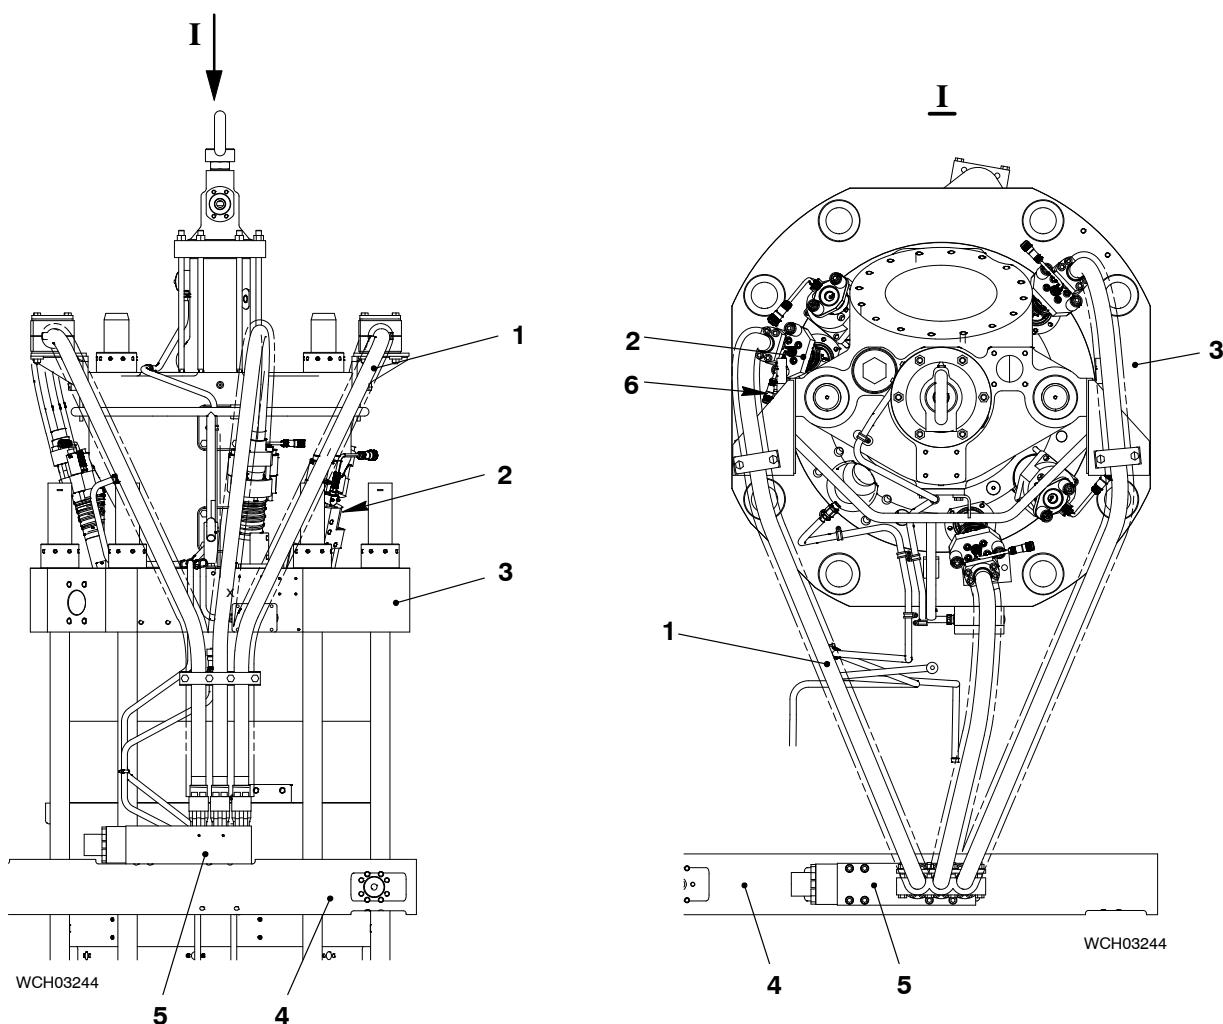

Fig. 5: Location of High Pressure Pipes
- 3) Disconnect the electrical connection (6, Fig. 5) from the injection valve (2).